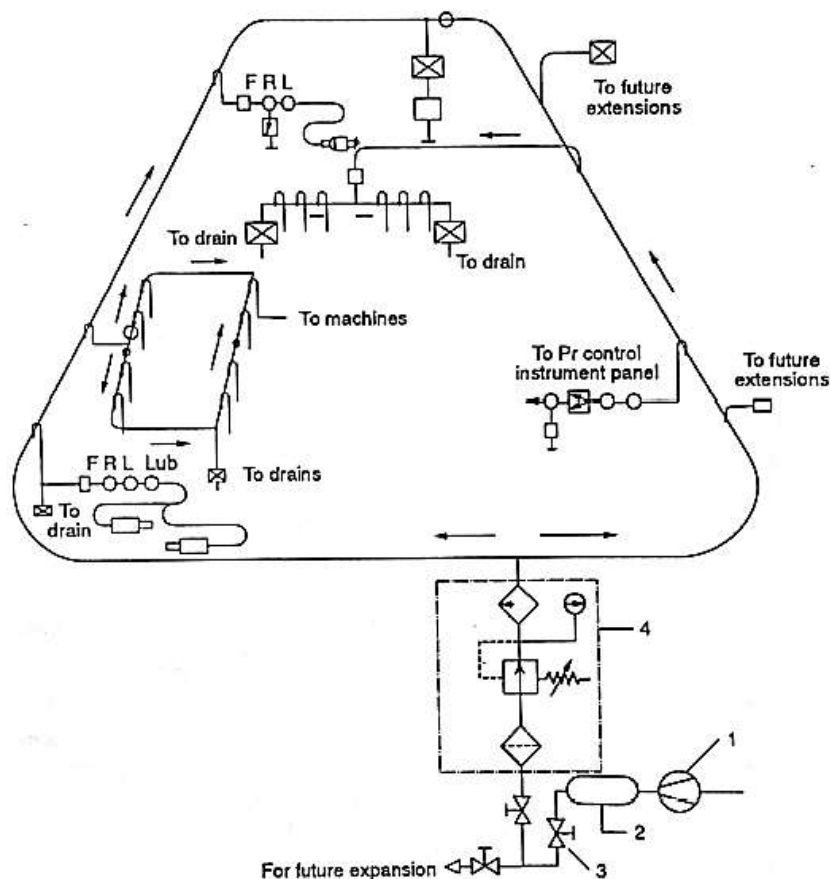

Fig.4.12 Loop System In Piping Layout
- ▶ To achieve this, it is essential that the loop type of piping should be used as shown in *Fig.4.12*. and straight line type long distance piping layout is to be discarded as far as possible. Minimum number of bends are to be used in the line to keep the losses due to friction to the minimum.
- ▶ In *Fig.4.12* , various take off points from the main pipeline of a pneumatic system may be noted. The horizontal main is on the wall with a slope. The feedlines are taken from the top of the